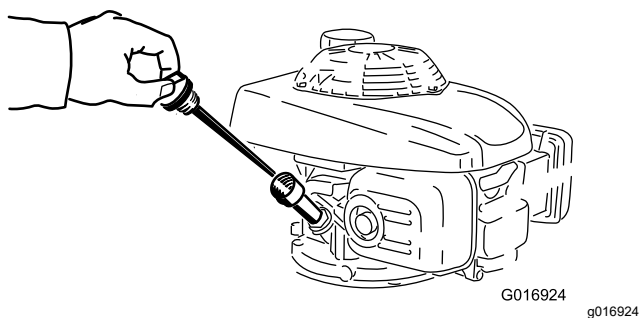

Figure 25
5. Remove the dipstick (Figure 25).